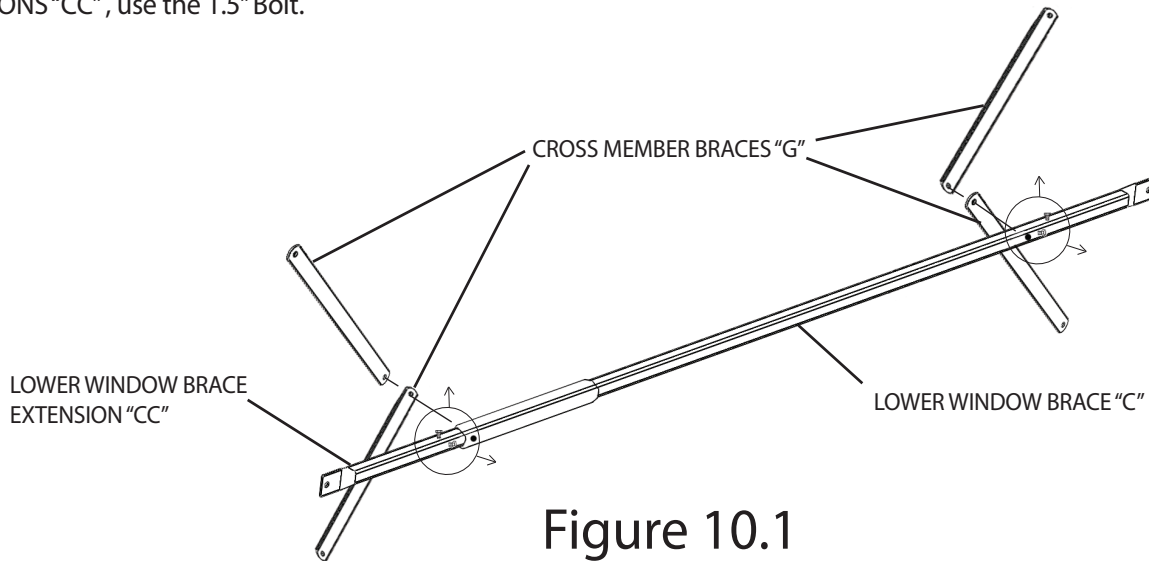

Figure 10.1
STEP 2: Locate the (2) LOWER WINDOW BRACES "C" and the (2) LOWER WINDOW BRACE EXTENSIONS "CC" and (8) CROSS MEMBER BRACES "G". Slide the LOWER WINDOW BRACE EXTENSIONS "CC" into the corresponding opening in the LOWER WINDOW BRACES "C". Align the CROSS MEMBER BRACES "G" with the corresponding holes, as illustrated in Figure 10.1, and fasten with the hardware (2) 1.5" Bolts (2) 1.25" Bolts and (4) Nuts in the hole locations. This will create the (2) parts COMPLETED LOWER WINDOW BRACE, as it will be referred to in the remainder of the assembly manual.
NOTE: Make sure the (4) Set Screws already installed in the LOWER WINDOW BRACES "C" and the LOWER WINDOW BRACE EXTENSIONS "CC" are facing the same direction, and the CROSS MEMBER BRACES "G" are installed on the opposite side of the horizontal Set Screws, as illustrated in Figure 10.1. Where the CROSS MEMBER BRACES "G" share a hardware location with LOWER WINDOW BRACE EXTENSIONS "CC", use the 1.5" Bolt.